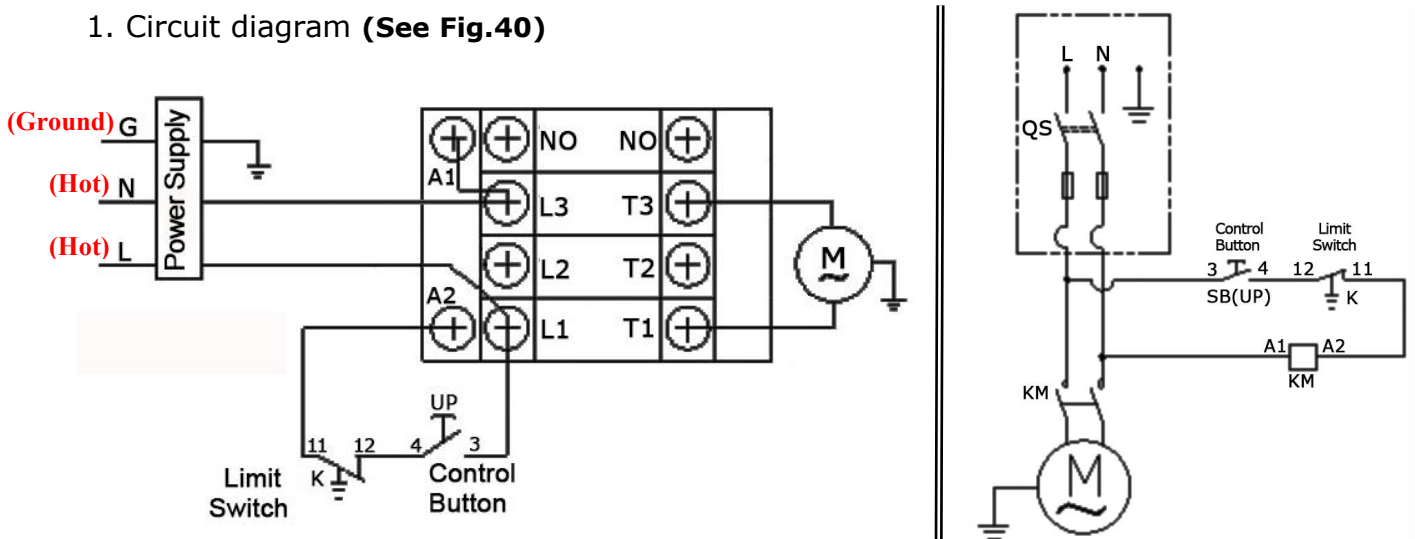

Fig. 40
1. Circuit diagram (See Fig.40)